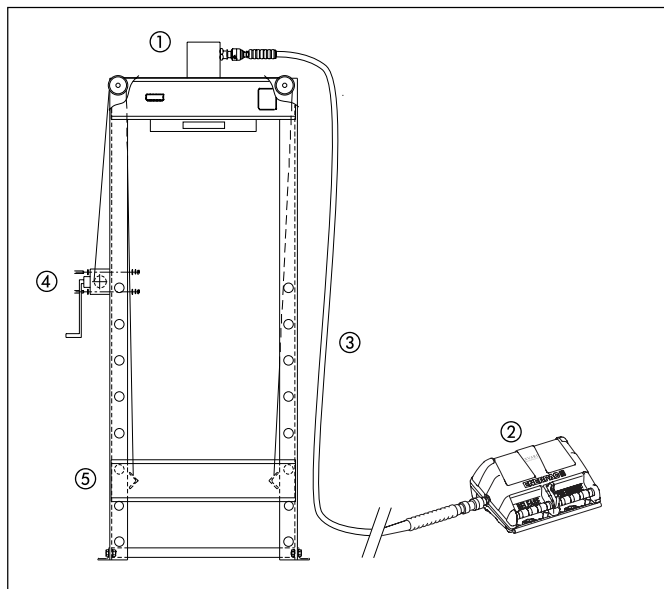

Figure 1, XLP 25 ton Press
3.0 INSTALLATION (Refer to Figure 1)